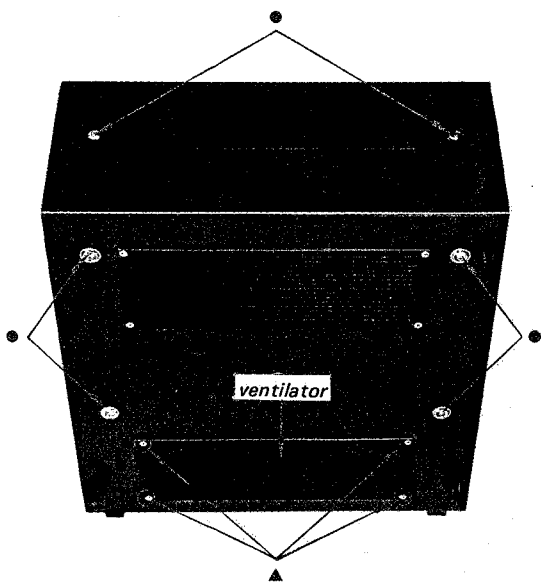

Fig. 2-2. Cabinet removal
- (1) Remove the six screws shown with ● in Fig. 2-2.
- (2) Take out the chassis from the cabinet.
Remove the ventilator by taking off four wood screws (⊕K 4x10) marked with ▲ in Fig. 2-2. Pull off the printed circuit boards. Here the voltage check can be made by removing the cabinet or by using the special jig (Part No. X-31400-99) without the cabinet removed.